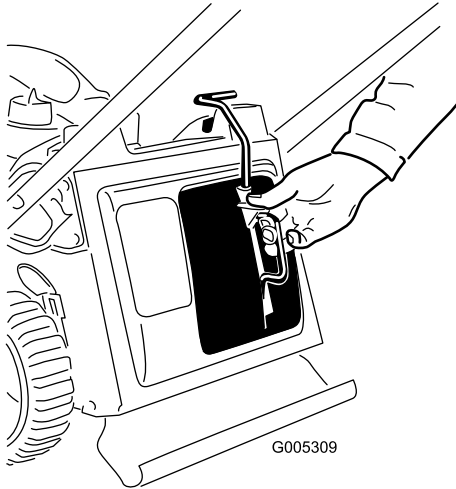
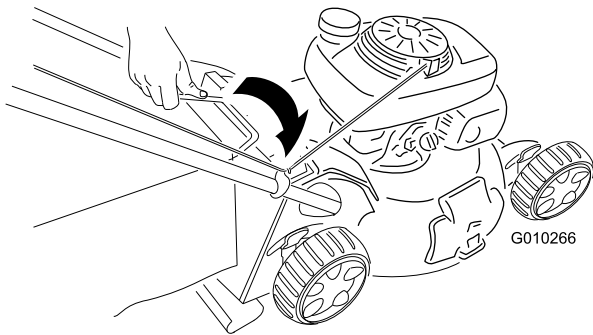

Figure 18
Figure 19
1. Install the mulch plug (Figure 18) or the grass bag (Figure 19) on the machine.